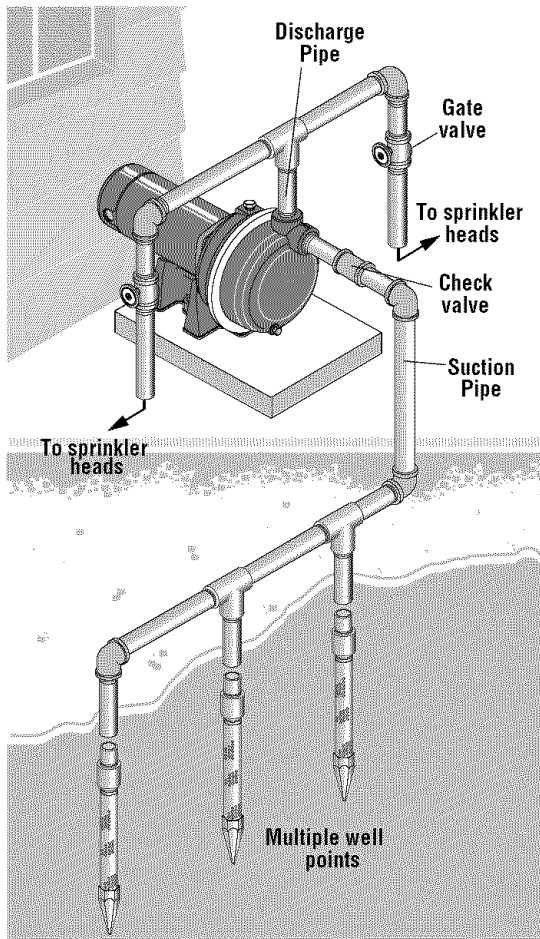

Figure 2: Driven Point Installation, Multiple Well Points
- Step 1. Connect suction pipe to drive point (Figure 2). Keep horizontal pipe run as short as possible. Use Teflon tape on male pipe threads. Multiple well points may be necessary to provide sufficient water to pump.